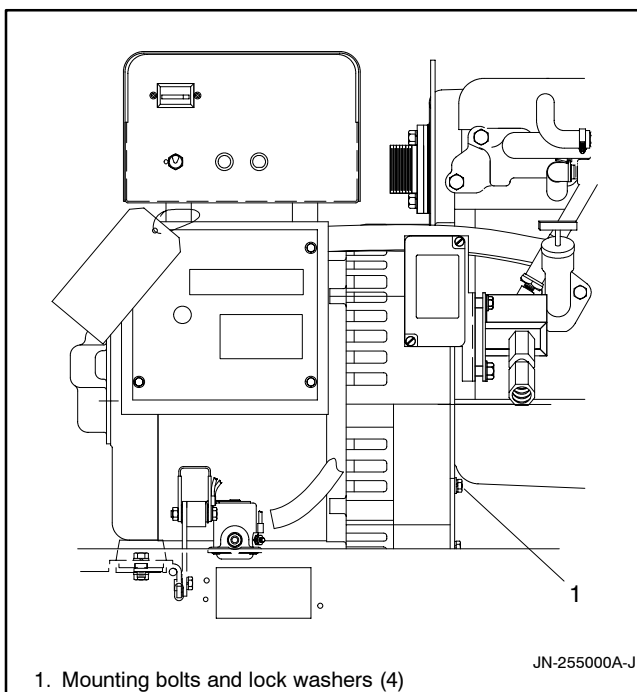

Figure 6-7 Adapter Panel
16. Remove four bolts and lock washers securing adapter panel to adapter. See Figure 6-7.